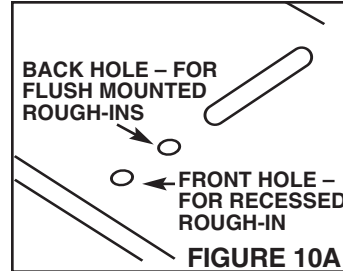

FIGURE 10A
2. Refer to Figure 10A and 10B. For rough-in frames which are recessed into the wall opening, insert two (2) shoulder screws (provided) into the front two holes in the rough-in frame. For rough-in frames which are mounted flush with the wall, insert two (2) shoulder screws into the back two holes in the rough-in frame.